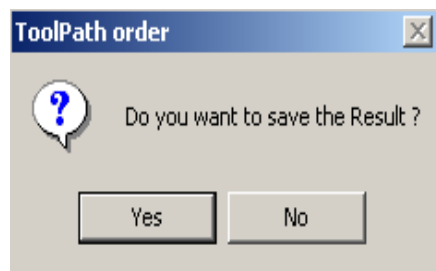

Fig. 10-64
4. After setting the sequence number in the menu, click the right mouse button again, and a dialog is shown. (Fig. 10-64)